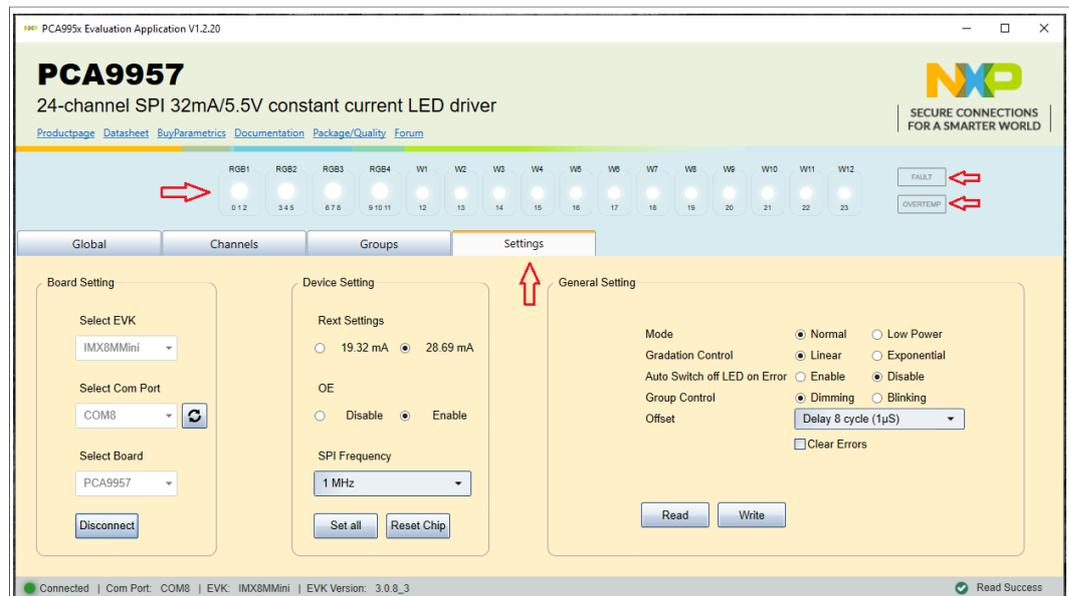

Figure 10. Graphical user interface — Settings tab activated
This section describes the GUI application and how the user can control the PCA9957HN-ARD daughter board from the graphical interface: First, install the GUI package and software package downloaded from the NXP site (here) on the PC (Windows 10). For more installation details, download and read EVK\_Firmware\_And\_GUI\_Install\_Guide\_For\_Arduino\_Boards.pdf instruction file from the NXP site (here). Once installation is complete, assure that one of the three supported EVKs with the attached PCA9957HN-ARD daughter board is connected to the PC and powered-on. Open the NXP\_GUI(PCA995x) GUI application. An interface will appear as is shown in Figure 10
- **Select Board** allows the user to select the correct daughter board (the application can support three different boards). In Figure 10 the selected board is **PCA9957**.